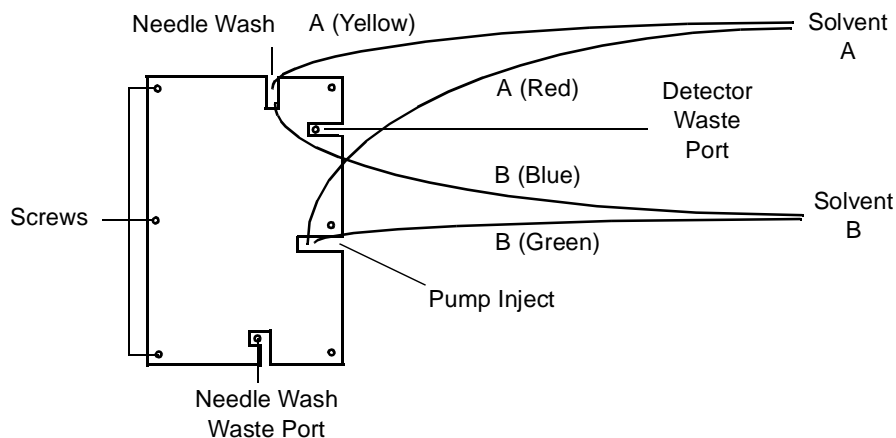

Figure 2-5 Removing the Left Panel
2. Remove the six screws from the left panel, and then remove the panel (Figure 2-5).